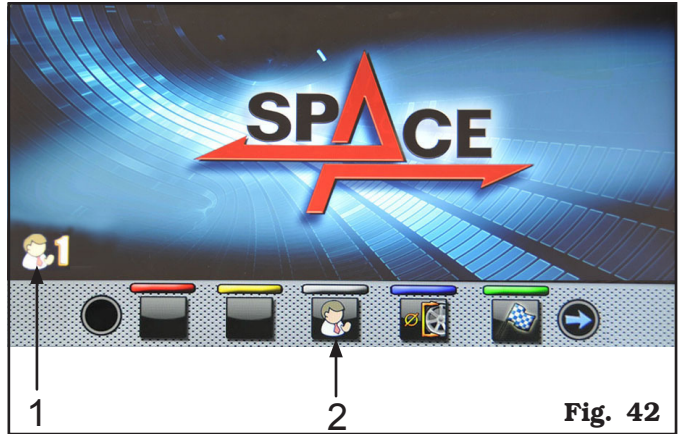

Fig. 42
The "User Management" function is disabled on machine delivery. To enable it, proceed as described in Para 14.1. After enabling, the icon will be displayed on every page (Fig. 42 ref. 1).
Press button , shown on the monitor (Fig. 42 ref. 2) or select the field (Fig. 43 ref. 1) and subse-
Press any of the available numbers on the buttons at the bottom of the page to select the corresponding user. The system stores the data relating to the last performed spin according to the different operators. You can recall the desired user each time the program displays the specific button (**Fig. 42 ref. 2** and **Fig. 43 ref. 1**). The measurements stored for each user are lost when the machine is switched off. User management is valid for any wheel balancer function.